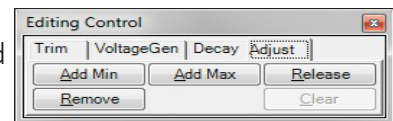
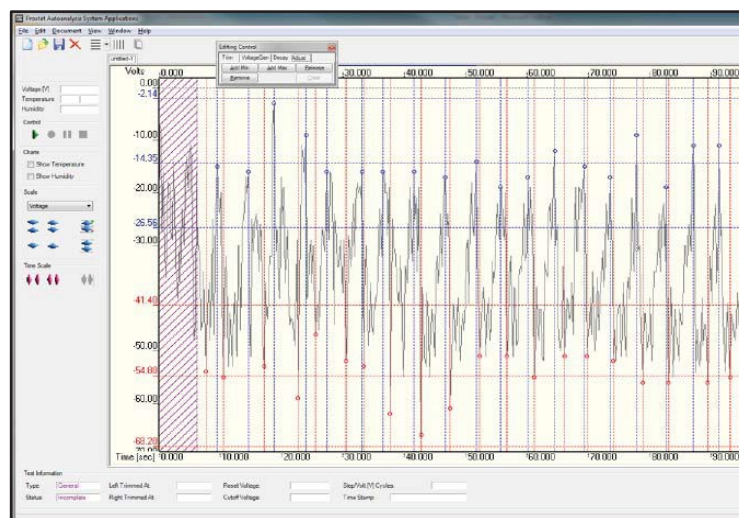

Figure 24: Click Adjust then Release to begin the Autoanalysis
Figure 25: Releasing Data and Process the 3-Sigma Analysis for Minimum & Maximum peak sets
6. Click the **Adjust** tab in the **Editing Control** window as shown in Figure 24. This allows you to add or remove **Min** or **Max** peaks from the analysis.
7. Once peaks for each walking step are identified, click Release to release the data (Figure 24) for analysis and report preparation. Once the data is released, 3 Sigma data (Figures 25 & 26) are calculated, displayed and a report can be generated.